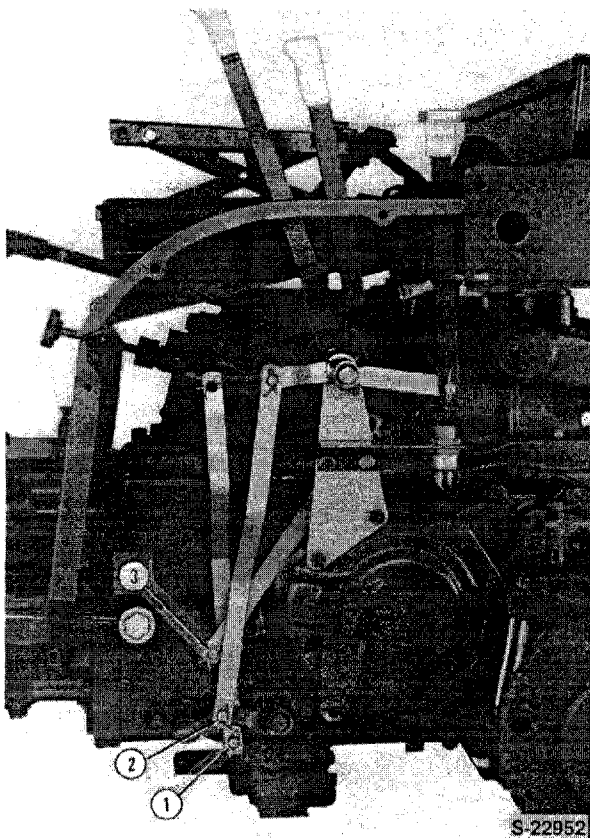

Figure 9
Reference — Figure 9 and 10
1. Remove the link (1), Figure 9.
1. Remove the link (2), Figure 9, from the change lever.